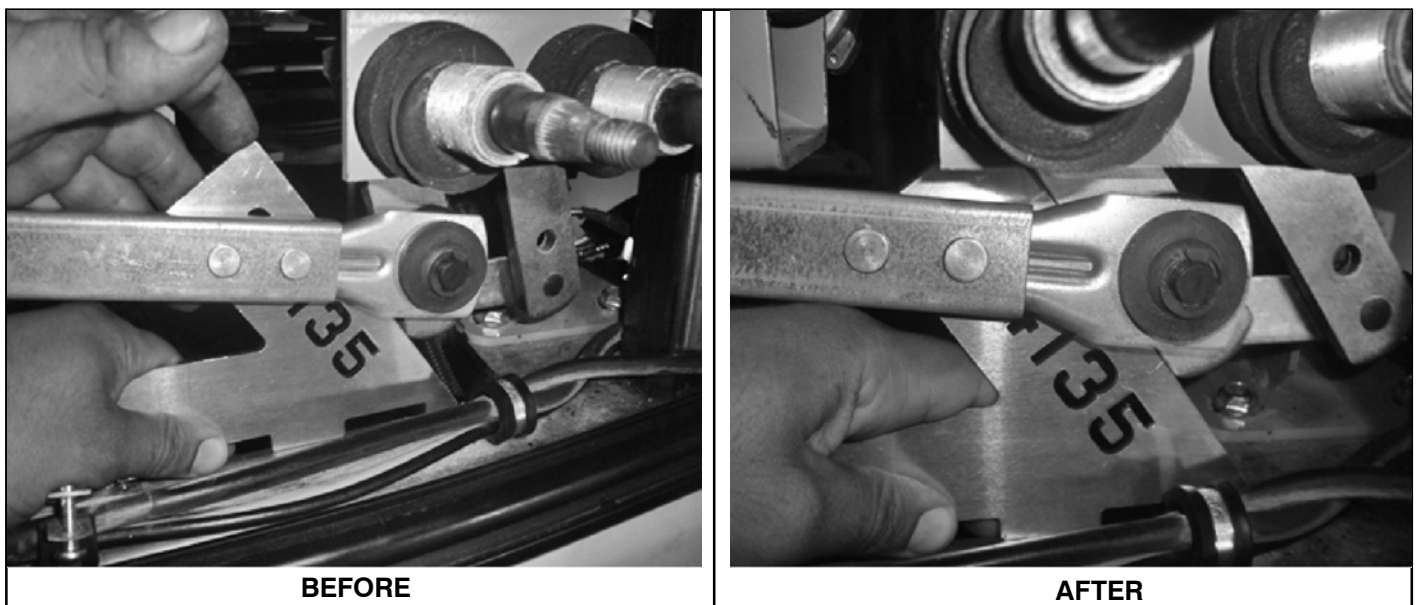

Figure 13. Wiper Arms Before and After Linkage Adjustment
33. Positioned in front of the coach, locate the main wiper linkages (refer to Figure 13).
34. Verify that the arm swing angle from the wiper arm pivot is 35 degrees on both sides vertical by utilizing a gauge. With gauge tool 24135 Ensure the angle measured from the frame member is 55 (+/- 1.0) degrees (refer to Figure 13 and gauge tool 24135 template included with this procedure and kit). Repeat on opposite side of coach.
If the angle measured from the frame member is not 55 (+/- 1.0) degrees on both the curbside and roadside wiper arms as shown in Figure 13, proceed to Step 35.
If the angle measured from the frame member is 55 (+/- 1.0) degrees on both the curbside and roadside wiper arms as shown in Figure 13, proceed to Step 36.